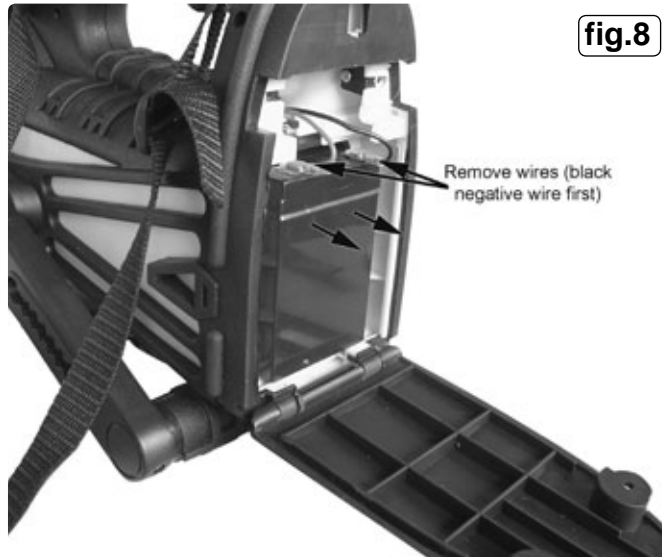

fig.8
3. Securely grip the exposed end of the battery and carefully slide it a few inches out of the housing (fig. 8).